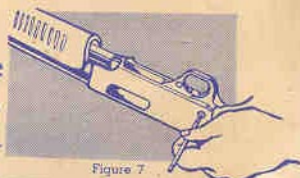
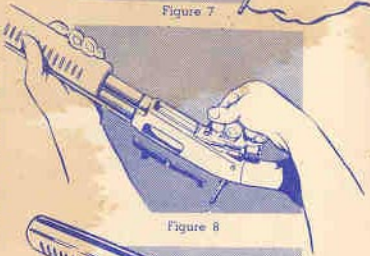

Figure 7
Figure 8
**TO REMOVE TRIGGER ASSEMBLY:**—With pencil point or small screw driver push out trigger lock pin from right to left side of receiver as in Figure 7. Lift rear part of trigger guard bow until projection of guard clears stock; pull up and to the rear as in Figure 8.